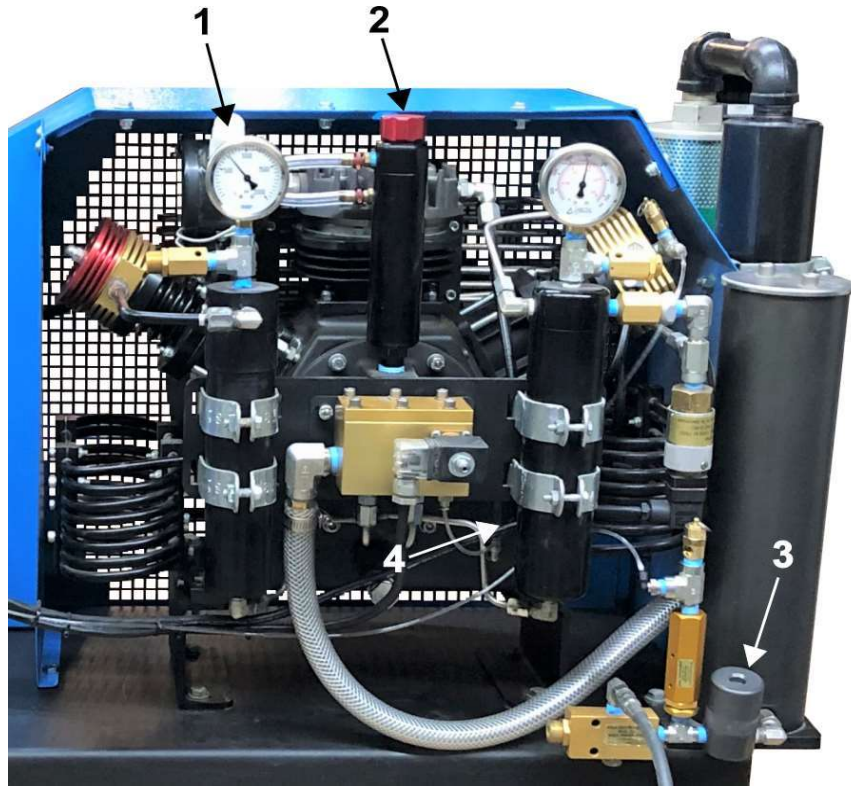

Figure 3.5: Start up Check points
- Check the oil level and add if necessary. (Figure 3.5)
- Check the CO/Moisture indicator. (Figure 3.5)
Table 3.5 Block Start up point Identification, use with Figure 3.5